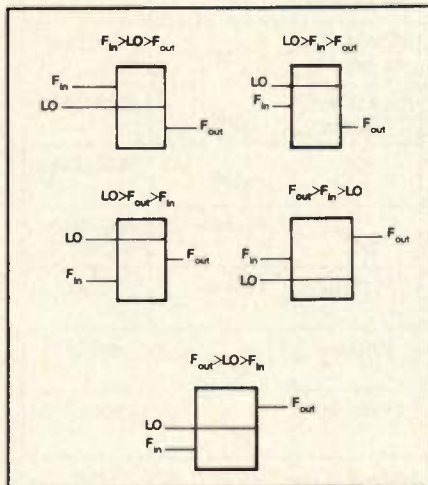

Figure 1. Frequency relationships for the five menu selections.
The Westwood article had a graphical representation that is helpful in understanding the relationship of the frequencies involved in the five different mixer modes. A similar representation, with the symbols used in this article, is shown in Figure 1.
The SPURPLOT program will analyze any of the five mixer modes shown in Figure 1. The input menu is reproduced in Figure 2. The relationship of the input, output and LO frequencies is shown to the right of each of the menu selections. There is also a program information section that explains some of the program features. Once the mixer mode has been selected, the user is asked to specify which of the mixer ports has a fixed frequency input and what the fixed frequency is. The program then uses the mixer mode and the fixed frequency port information to decide whether the analysis will be a receiver (RX) type, or a transmitter (TX) type, as discussed in the previous section. Either equation 1 or 2, as appropriate, is printed at the top of each plot. Figure 3 shows the type of analysis done for each combination of mixer mode and fixed frequency port. The selections were set up to match the type of analysis with the most likely use of that particular mixer mode and fixed frequency port. Figure 4 shows an RX case where spurious is plotted on the input frequency axis, and Figure 5 shows a TX case where spurious is plotted on the output frequency axis.